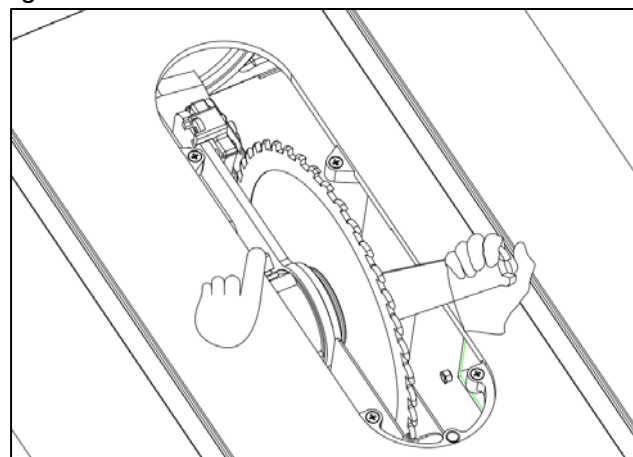

Fig. 15
3. As shown in **Fig. 15**, press the arbor locking pin by one hand, rotate the arbor until the locking pin engages with the arbor, then remove the arbor nut and flange by using a open end wrench.